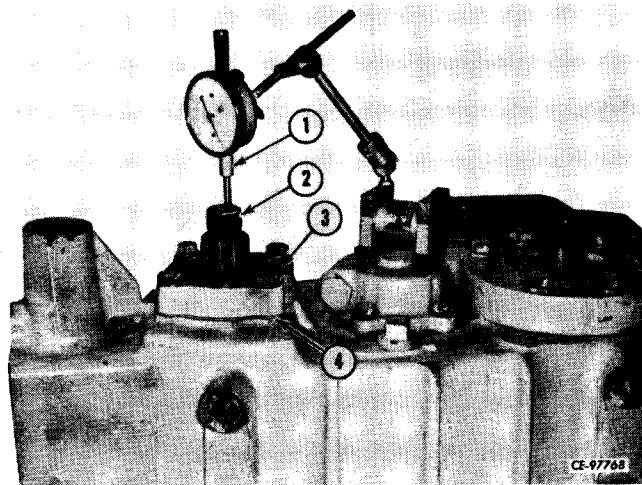

Figure 4-101
Position a dial indicator (1, Fig. 4-101) against the end of main drive gear (2) and measure end play in gear assembly. Refer to "TOLERANCES" under "SERVICE INFORMATION" for recommended end play.